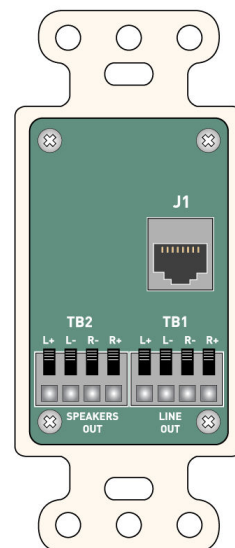

Figure 2
The rear of the lyriQ™ Standard Keypad (see **Figure 2**) contains an RJ45 jack (J1) for connection to the lyriQ™ Audio Distribution Module. The TB2 speaker output connections (left and right, plus and minus) are spring loaded and designed to support up to 14 gauge wire. The TB1 Line Out connections (left and right, plus and minus) are also spring loaded and designed to support up to 14 gauge wire. These connections can be used to attach a powered subwoofer such as On-Q's 10" (P/N 364664-01) or 12" (P/N 364671-01) subwoofer or an external amplifier.
- 1) Connect the volume control by terminating the pre-wired Category 5 cable from the enclosure with an RJ45 plug, following the T568A wiring standard and insert this plug into jack J1 (see **Figure 2**).
- 2) For the Line Out/Speakers Out connections (TB1/TB2) strip 3/8" of insulation from each of the four conductors and insert the appropriate wires into the appropriate connections (see **Figure 2**).